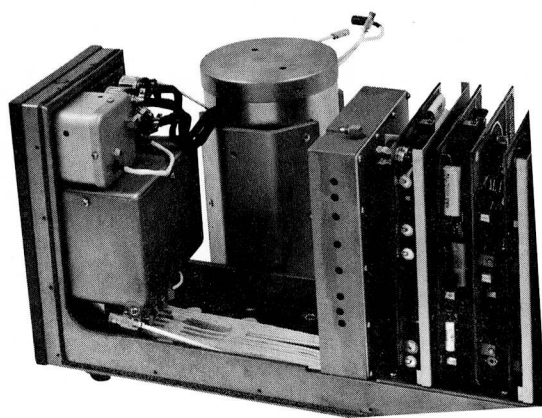

Figure. 6-5. Removing Optical Package
- (c) Remove four screws on bottom of chassis retaining optical package and lift out optical package (Figure 6-5).